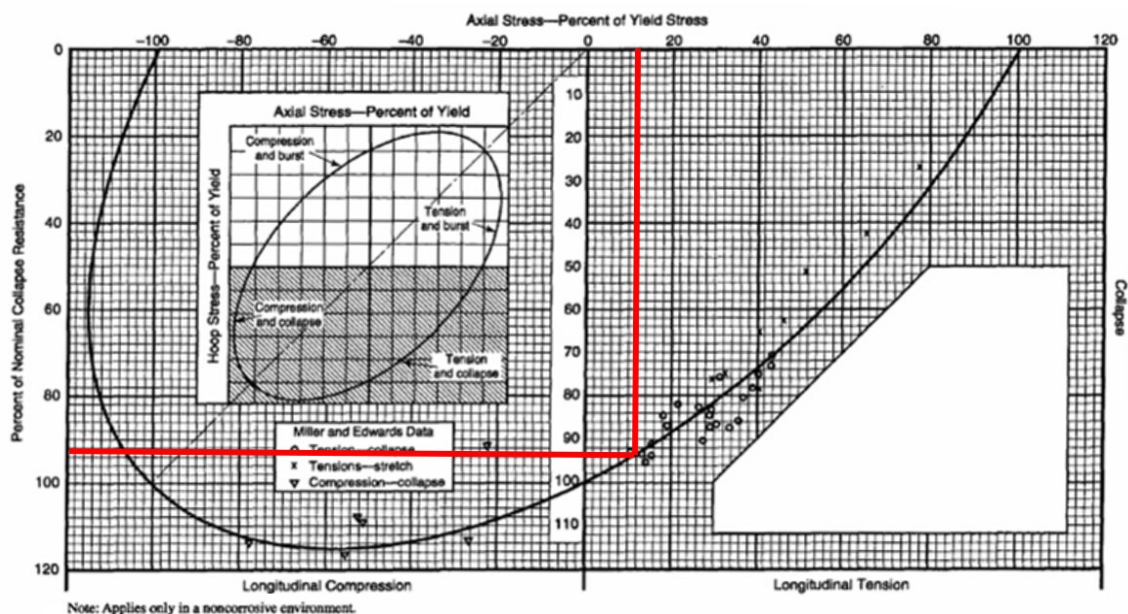

Figure 81—Ellipse of Biaxial Yield Stress12 or Maximum Shear-Strain Energy Diagram
k. Enter Figure 81 at 14.16 percent on upper right horizontal scale and drop vertically to intersect right-hand portion of the ellipse. Proceed horizontally to the left and intersect Nominal Collapse Resistance (center vertical scale) at 92 percent.